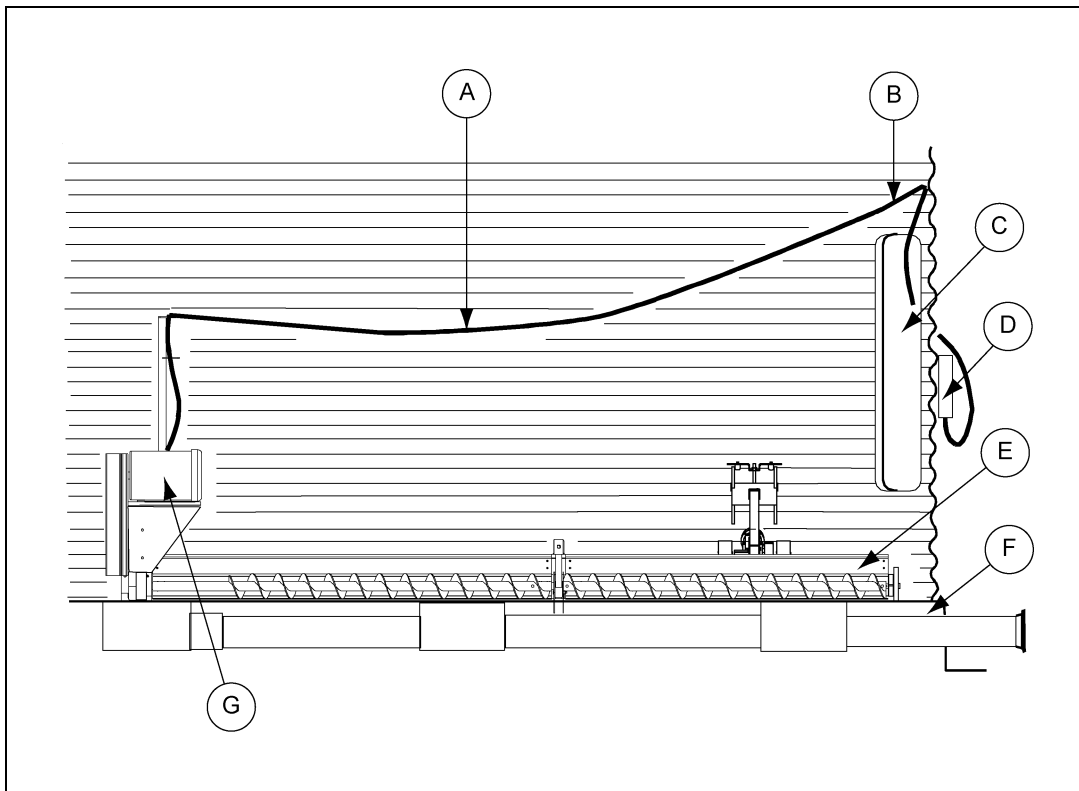

Figure 5G
5. Attach suitable electric wiring to the motor in a manner that will permit the sweep to rotate several times about the bin. The motor starting controls must be located outside of the bin. They must never be installed on the sweep auger inside the bin. Locate the motor starting controls outside the bin, but near the door so the operator has full view of the operation inside the bin. (*See Figure 5G.*)